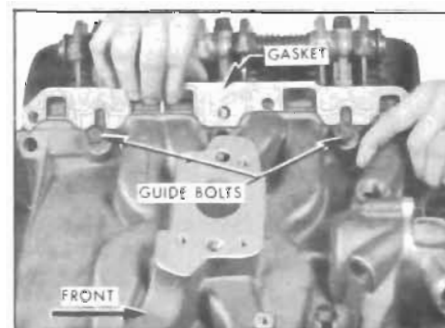

Figure 2-17—Installing Intake Manifold Gasket
16. Lift the manifold slightly and slip the gaskets into position as shown in Figure 2-17. Take care to see that the gasket is installed with the three intake manifold ports aligned with the head and manifold. The gasket should be installed as shown in Figure 2-17 on the left side and reversed for right side installation.